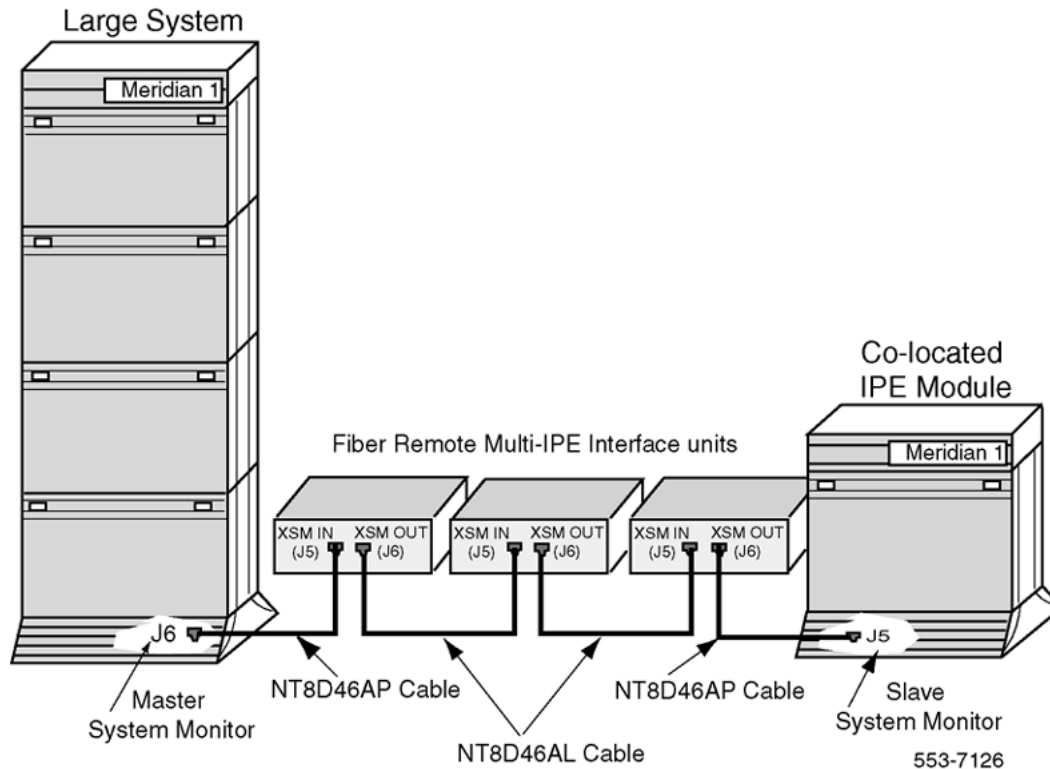

Figure 10: System monitor daisy-chain connections at the local site
To daisy-chain the system monitor cables to multiple Fiber Remote Multi-IPE Interface units, refer to Figure 10: System monitor daisy-chain connections at the local site on page 60 and follow the steps in Connecting multiple Fiber Remote Multi-IPE Interface units to the system monitor on page 59.
8. The XSM OUT (J6) in the last Fiber Remote Multi-IPE Interface unit in the daisy-chain connects to the J5 of the slave system monitor in the co-located IPE Module when this system monitor is outbound from the last Fiber Remote Multi-IPE Interface unit in the chain, as shown in Figure 10: System monitor daisy-chain connections at the local site on page 60.
Figure 10: System monitor daisy-chain connections at the local site on page 60 illustrates the system monitor daisy-chain connections for multiple Fiber Remote Multi-IPE Interface units at the local site.